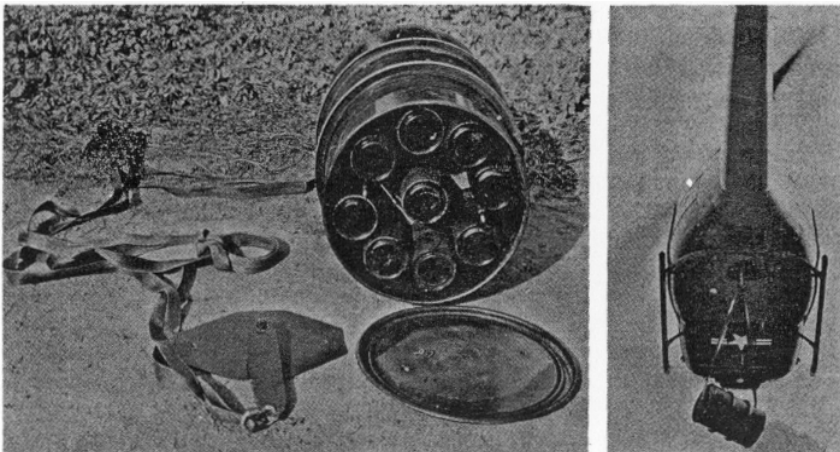

Figure 1. Ammunition drum sling loaded under helicopter (right). Drum showing nine fiber canisters set in plywood inserts (left).
The man-handling of 8-inch howitzer projectiles is a dangerous job. This hazard can be eliminated with the aid of a few simple items—a projectile sling and carrying handle and a loading ramp (fig 1)—which can be easily fabricated by a battalion maintenance section.
Figure 1. ① The assembly used when carrying the projectile. The men walk alternately on each side. ② The method for loading the projectile onto the ammunition truck. Unloading is accomplished without the strap. The projectiles are simply allowed to slide free. ③ Specifications for fabricating the component parts. ④ Specification for wooden chocks to prevent rolling of loose rounds on the bed of the ammunition truck.
By utilizing an empty 55 gallon chemical drum and a bit of ingenuity that has characterized the development of the new division, the problem was met head on with the development of a simple, highly mobile ammunition container; thus, the air assault artillery ammunition drum (fig 1).